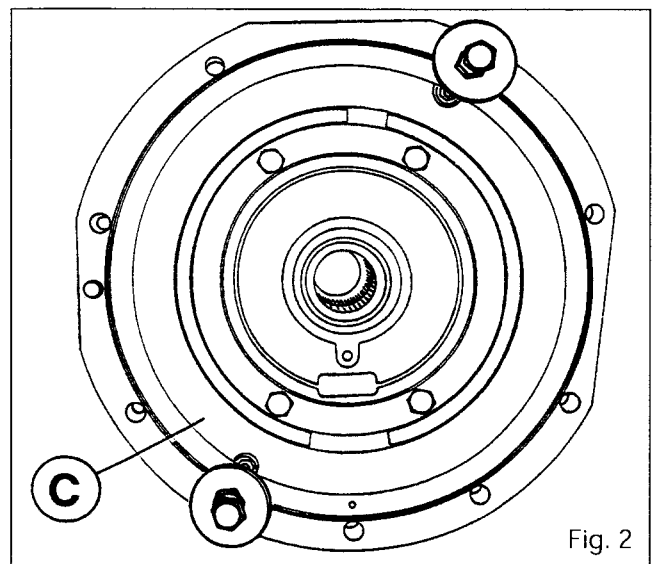

Fig. 2
1. Immobilize the tractor. Apply the handbrake. Fit chocks between the frame and the front axle (see 2 A01 Fig 2).
12. Unscrew the attaching bolts (29).
- . the brake disc (27)
- . the planetary shaft (25)
- . the locating dowel (28)
Note: Before serial number E240024, to prevent the brake piston (C) from coming out of the housing, it is recommended that two wide washers and two bolts be fitted diametrically opposite each other to hold it in place (Fig.2).
15. Remove the brake plate (26).